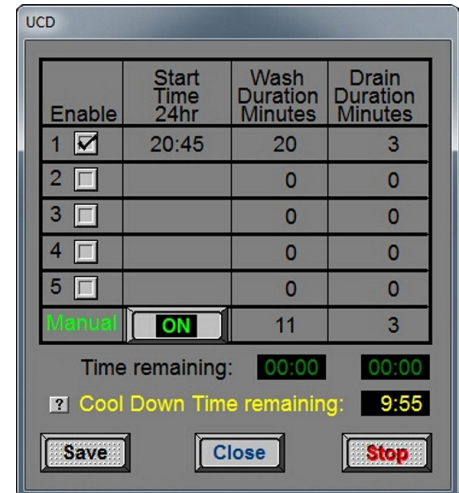

Figure 3-36 UCD Cool Down
**UCD Tank Heaters and Cool Down.** To improve ultrasonic cleaning of the belt, the tank is equipped with heaters to heat the water after the tank is filled. To avoid warping the tank, the system automatically enters a timed cool down while the water continues to be recirculated and before the drain cycle starts. The cool down time is shown on the UCD pop-up (Figure 3-36 UCD Cool Down).